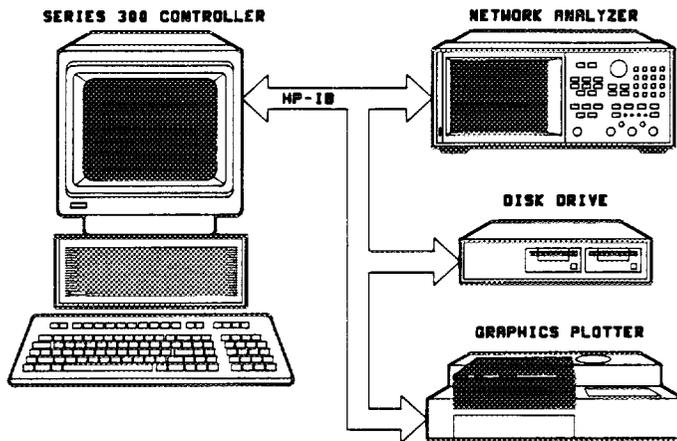

Figure 1. HP-IB connections in a typical setup.
1. **Set up the network analyzer as shown in Figure 1.** Connect the network analyzer to the computer with an HP-IB cable. The network analyzer has only one HP-IB interface, but it occupies two addresses: one for the instrument, one for the display. The display address is the instrument address with the least significant bit complemented. The default addresses are 16 for the instrument, 17 for the display. Devices on the HP-IB cannot occupy the same address as the network analyzer.
3. **Turn the network analyzer on.** To verify the network analyzer's address, press [LOCAL] [SET ADDRESSES] and [ADDRESS: 875x]. If the address has been changed from the default value (16), return it to 16 while performing the examples in this document by pressing [1] [6] [x1] and then presetting the instrument. Make sure the instrument is in either [USE PASS CONTROL] or [TALKER/LISTENER] mode, as indicated under the [LOCAL] key. These are the only modes in which the network analyzer will accept commands over HP-IB.